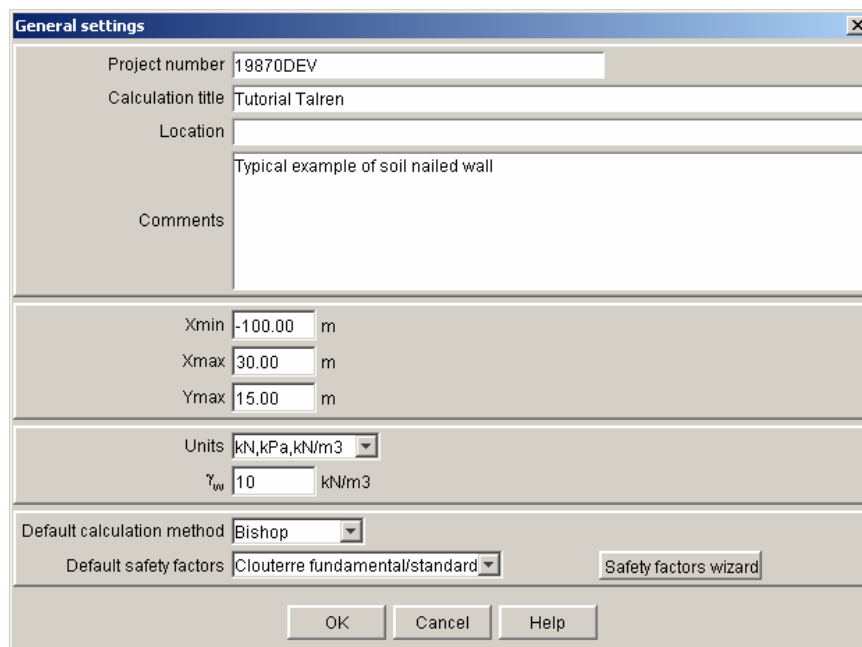

Figure 4: general description
- Select menu [Project data] and option [General Settings]. Fill in the dialogue box with the requested information (Figure 4).